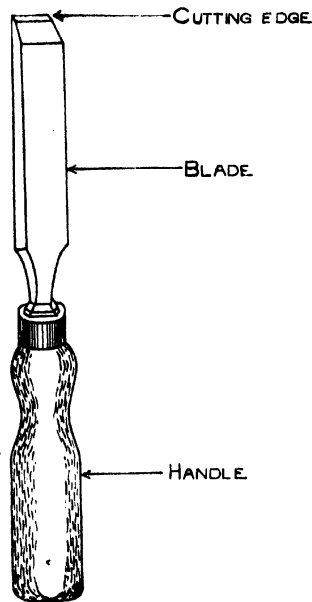

Fig. 52.
**The Firmer Chisel.**—This consists of a steel blade fitted into a wooden handle (Fig. 52). The blade thins towards the end, which is shaped like a wedge, and is used for paring wood, when the plane could not be conveniently used.